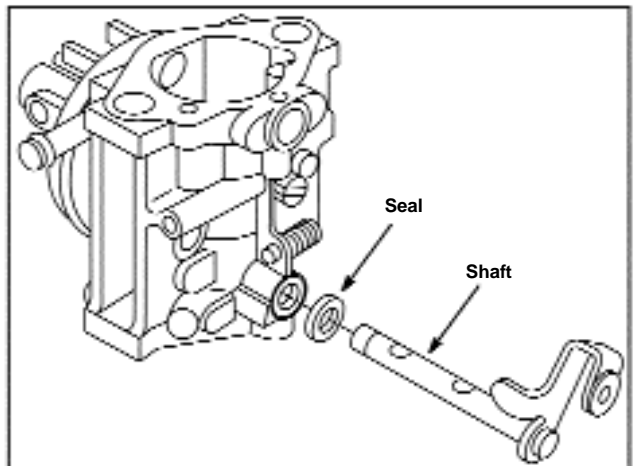

Figure 23 - Installing Throttle Shaft,
2. Place plastic throttle shaft seal on throttle shaft and install throttle shaft into body, Figure 23.